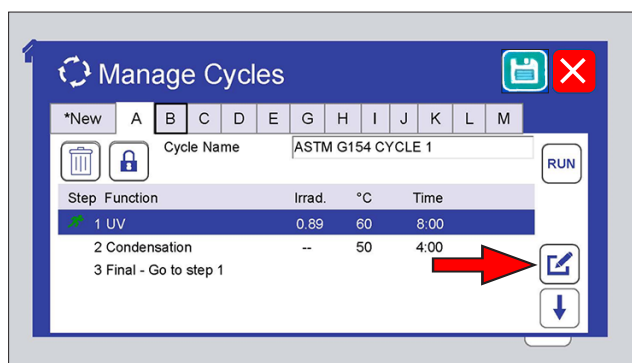
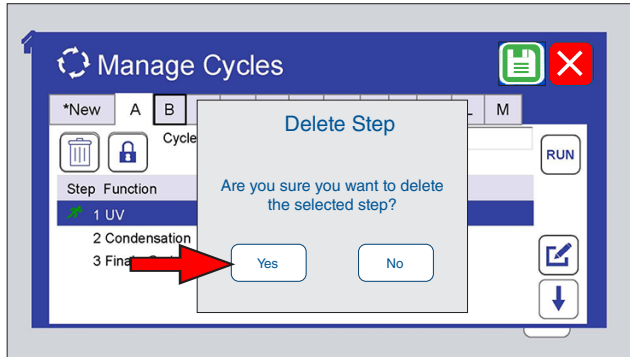

Figure 11.6.4a: For any cycle, a new step can be added before or after an existing step. Select the existing step then touch the Edit icon.
Figure 11.6.6c: Touch the Yes button to delete the step or touch No to cancel the delete.
- o Add, edit, or delete steps in a cycle (Figure 11.6.4a through Figure 11.6.6c). Pre-programmed test cycles cannot be edited (they can be deleted).